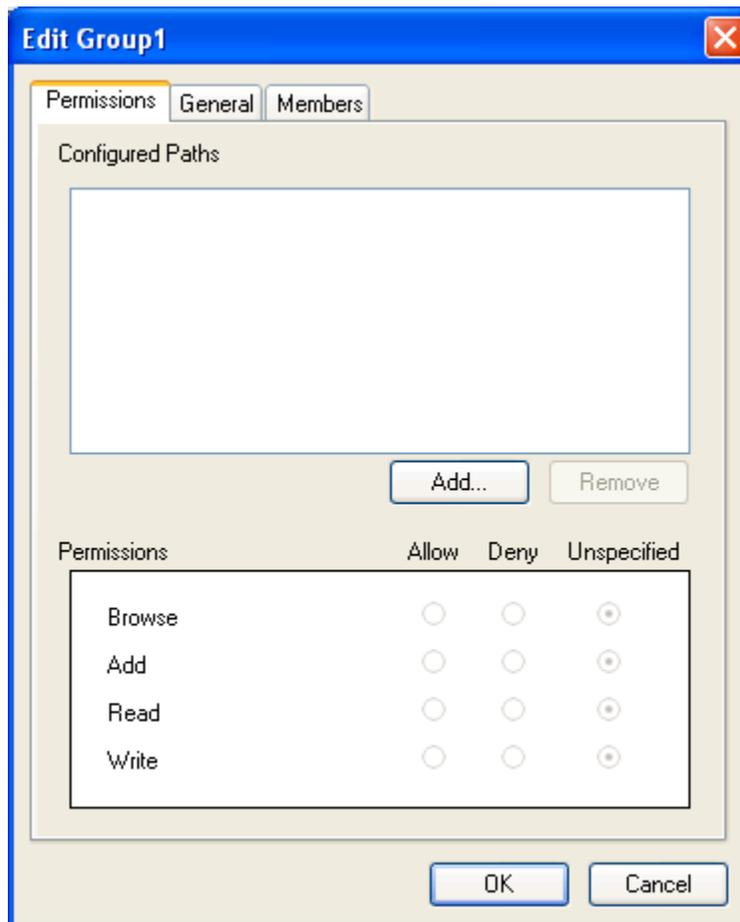

Figure 58 - Edit <Groupname> Window (Permissions Tab)
- The **Edit <Groupname>** window (Figure 58) appears (for NT Groups, there is only the **Permissions** tab). Follow the instructions in the **Edit Group** section for adding permissions.
6. The **Edit <Groupname>** window (Figure 58) appears. Follow the instructions in the **Edit Group** section for adding permissions.
- The **Edit <Groupname>** window (Figure 58) appears.